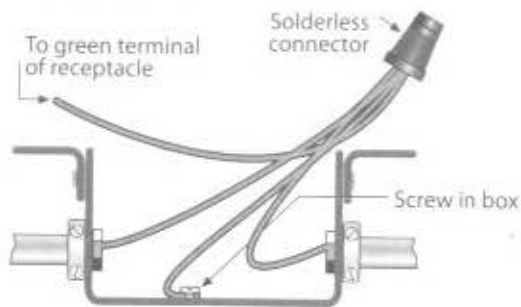

Fig. 11-6 How to install the bare grounding wire of nonmetallic-sheathed cable.
**Receptacles in boxes** If a receptacle is to be installed in the box, run a bare wire (or insulated green wire) from the green terminal of the receptacle to the junction of the other bare wires. Your solderless connector will then join four ends of bare wire. See Fig. 11-6.